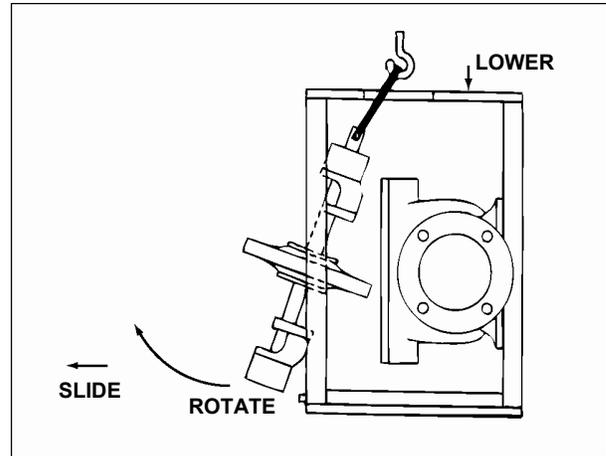

FIGURE 58 – LOWER ROTATING ELEMENT
on floor with shaft in an horizontal position (See Figure 58).
- 21. On full pedestals, the lifting sling must come through hole in top plate of pedestal (See Figure 58).